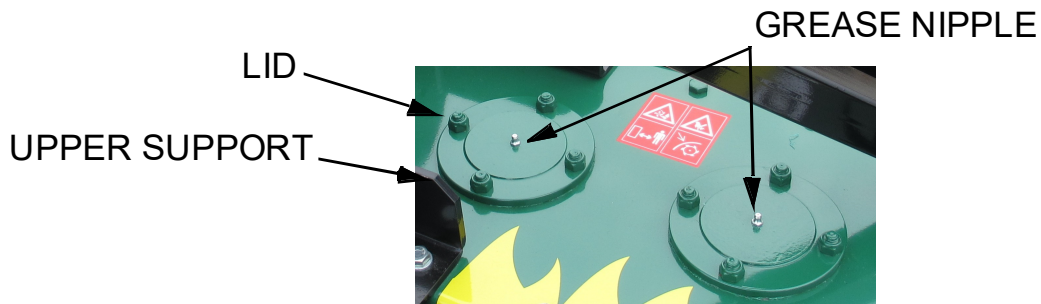

Figure 2
- Grease the two bearings of each rotor through its relative grease nipple located on the lid of the machine (see Fig. 2). Clean the grease nipple correctly for better lubrication. Use lithium-based grease with NLGI grade of 2.